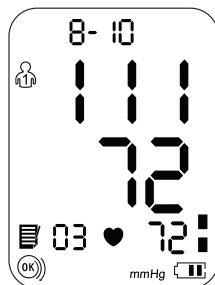

Fig. 2
5. All results for a given measurement will display, including measurement results, pulse rate, Hypertension Indicator and Irregular Heartbeat alert (if applicable), Fig 2.